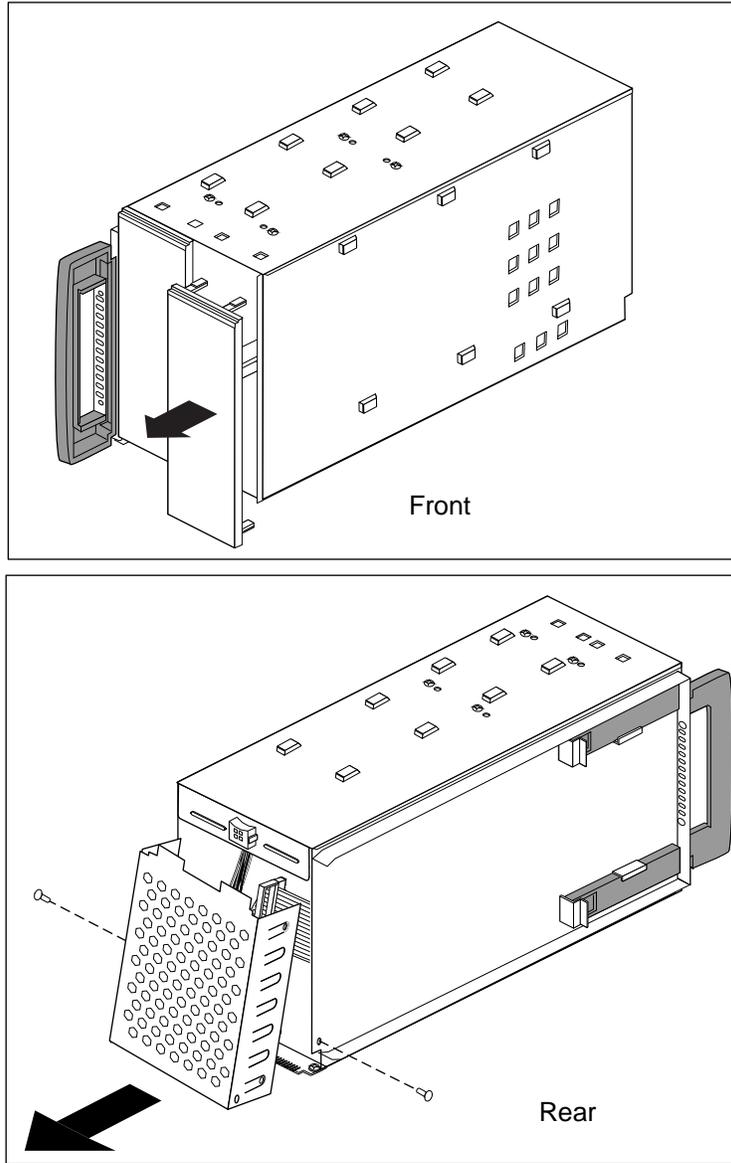

Figure 2-8 Removing a Blanking Plate and the Rear Access Plate from the Peripheral Carrier
2. Using a #2 Phillips screwdriver, remove the screws that hold the access plate to the rear of the carrier, then remove the access plate. See Figure 2-8.